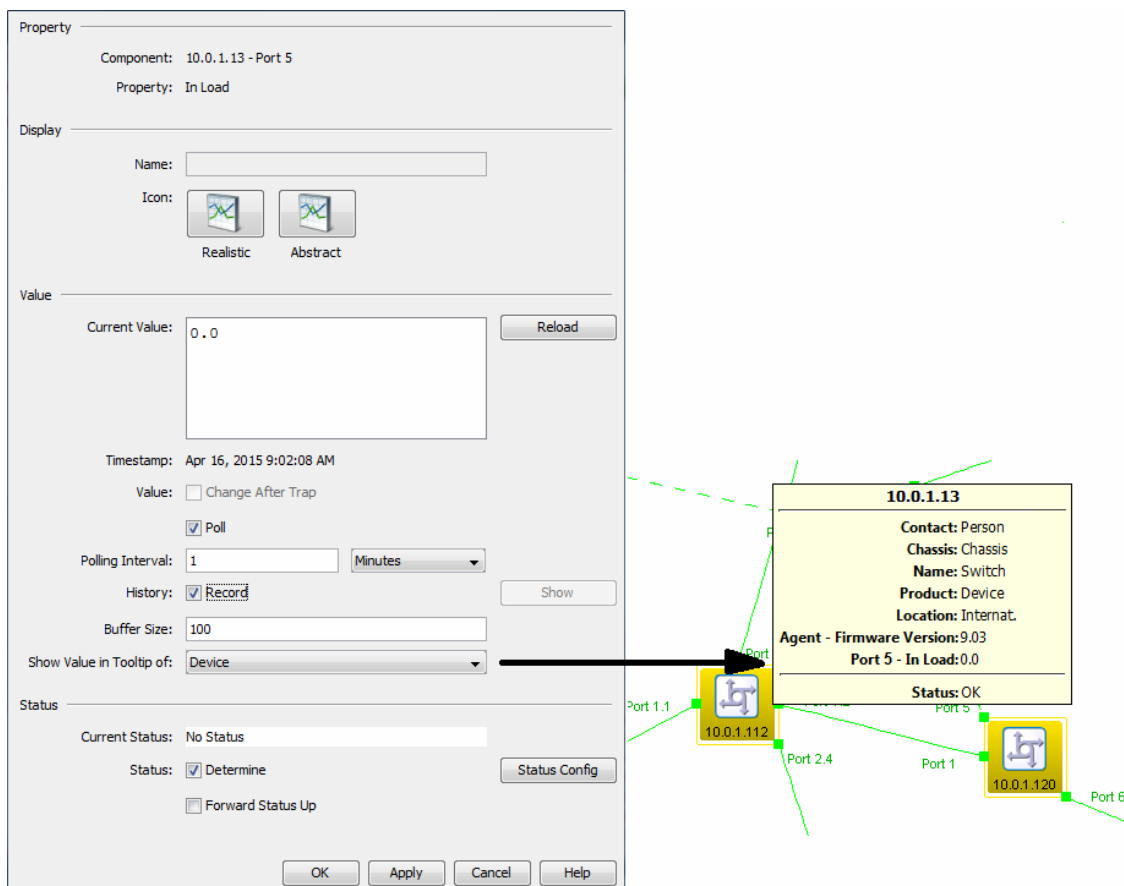

Figure 63: Detail properties
- ▶ To display this value in the bubble help of a higher-level component, select the component in the “Show Value in Tooltip of” drop-down list (see figure 63).